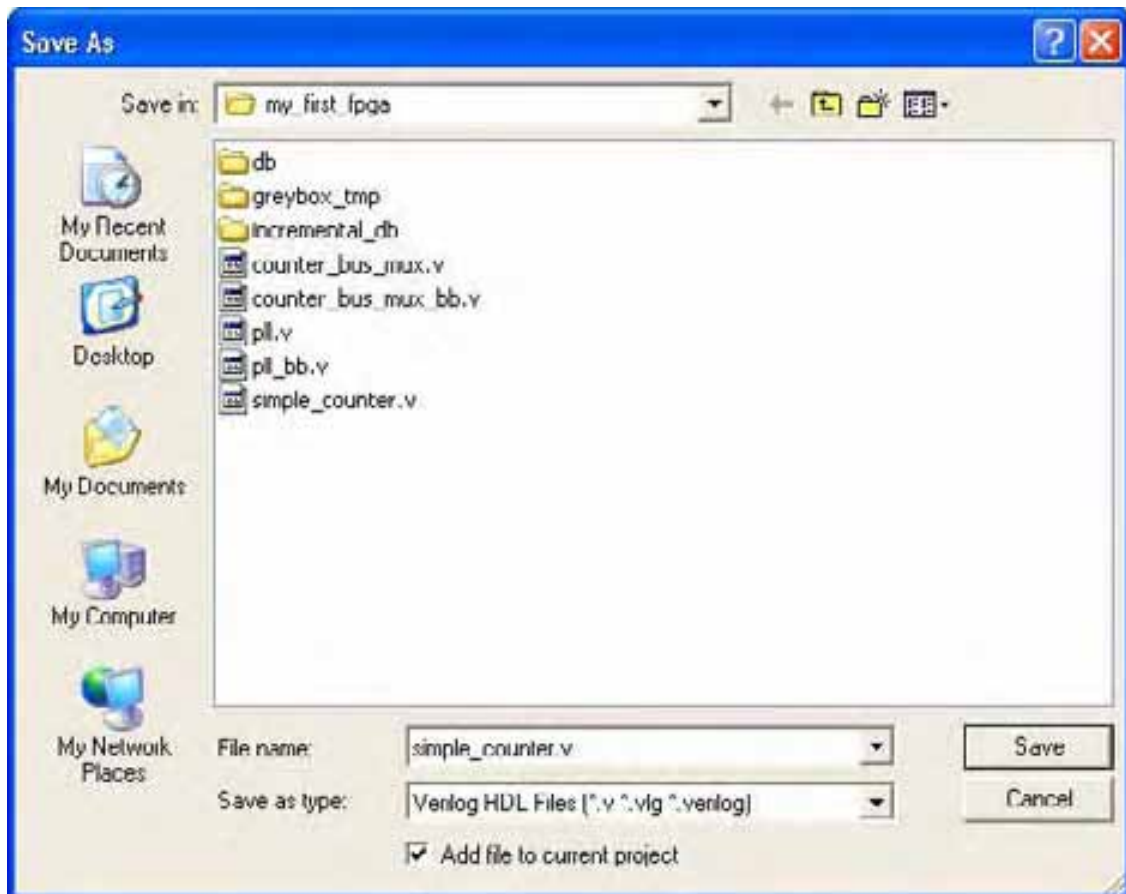

Figure 6-14 Saving the Verilog HDL file
3. Save the newly created file, by selecting **File > Save As** and entering the following information (see Figure 6-14).